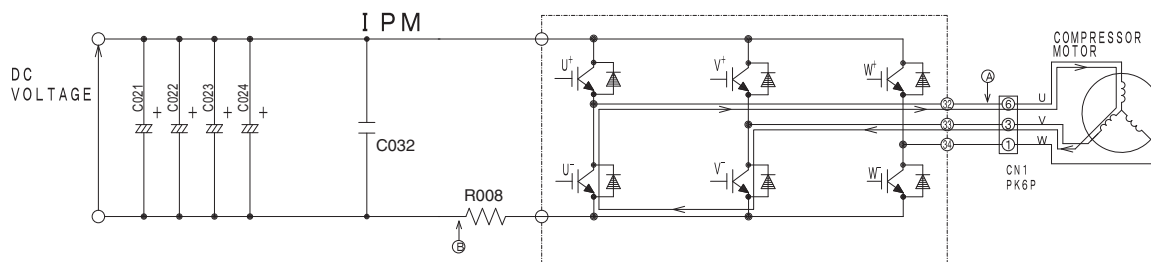

Fig. 7-4 Power module circuit (U⁺ is OFF, V⁻ is ON)
At point F : U⁺ is chopped (OFF), V⁻ is ON (circuit in Fig. 7-4)
- (2) When U⁺ transistor is OFF: (by inductance of motor coil) U coil → V coil → V⁻ transistor → U⁻ diode → Point A (Fig. 7-4)